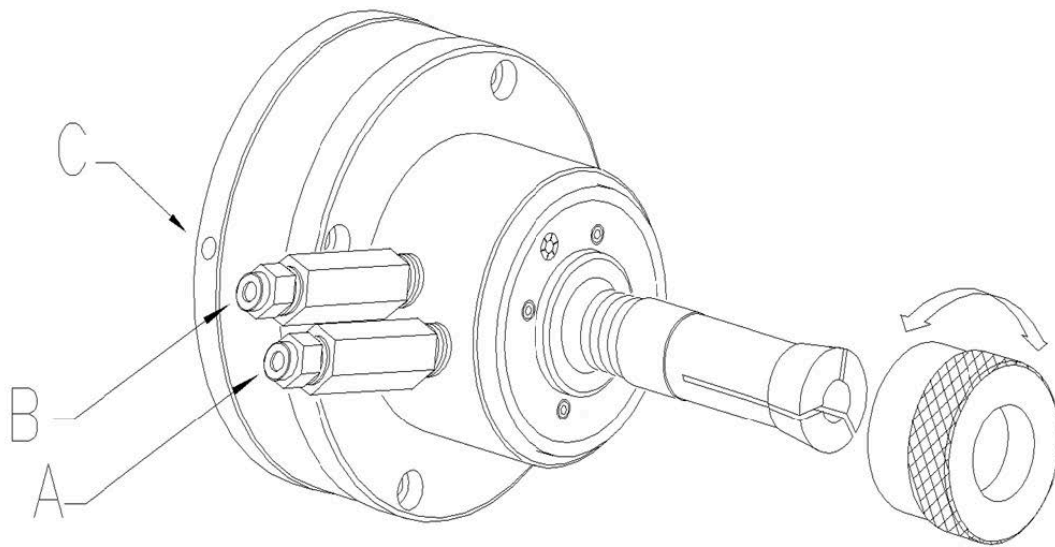

Figure 4-1. Collet Installation (ATL206-5C/ ATL207-16C)
3. Loosen the collet-locking screws (2 collet-locking screws for ATL206-5C and 1 for ATL207-16C) with the hexagon key enclosed in the package. See point C on Figure 4-1
4. (1) Use the collet wrench enclosed in the package, insert the collet and screw collet in clockwise until contact with the sleeve.